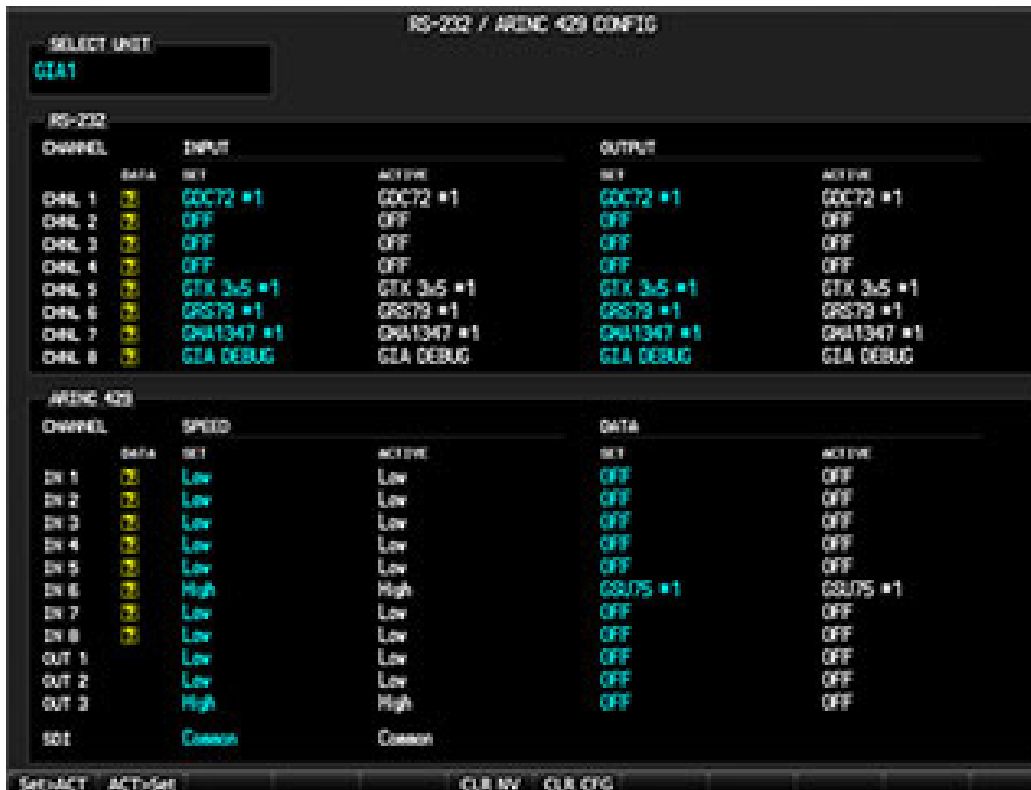

Figure 4-11. GIA RS-232 / ARINC 429 Configuration Page
- a) Select the GIA Serial (RS-232 / ARINC 429) Configuration Page (see Figure 4-11). At the top of the screen, select the GIA that cannot acquire satellites (GIA1 or GIA2) and touch Enter.